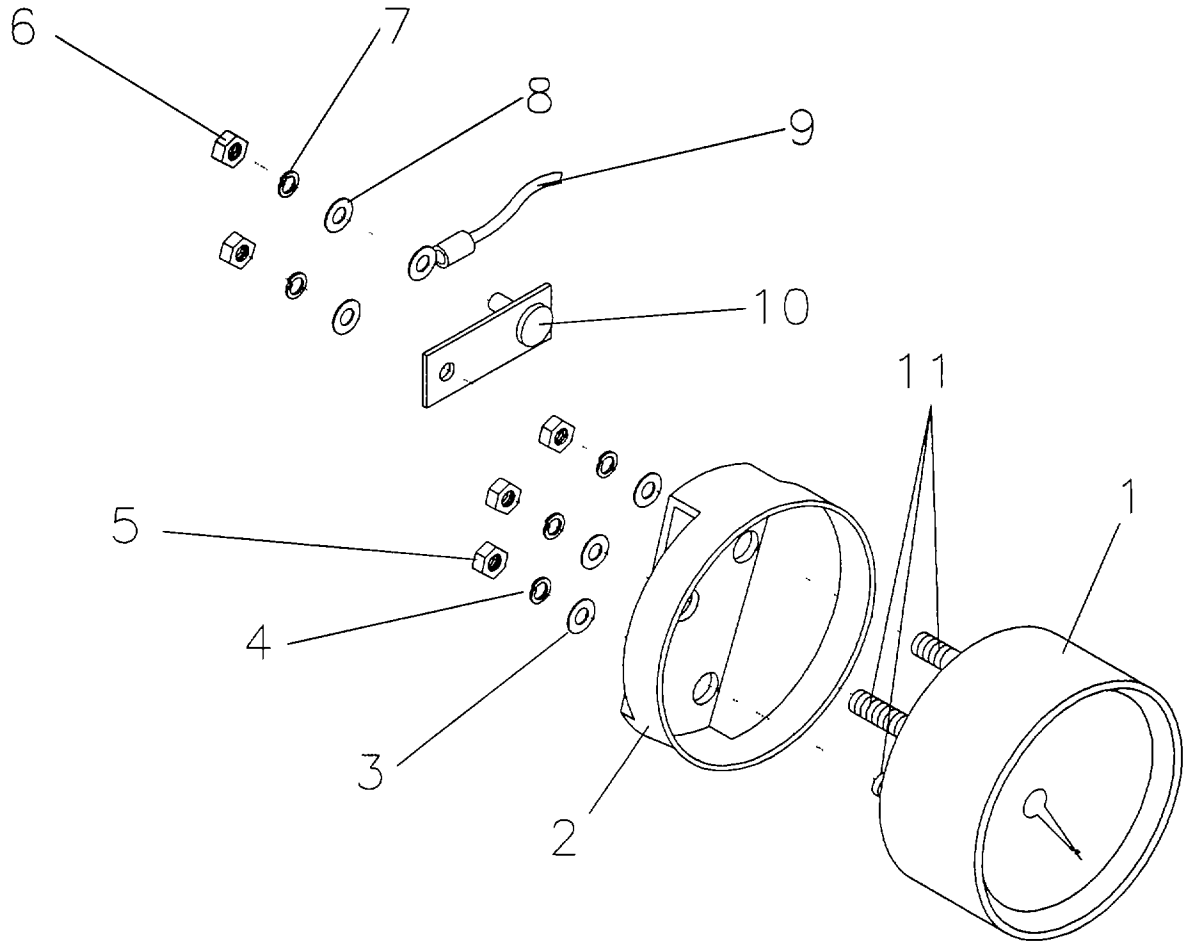

Figure 5-1. Pane Mounted Instruments.
a. Removal. Refer to figure 5-1.
1) Remove the nuts (6), lockwashers (7), flatwashers (8), tag and remove wires (9) and resistor assembly (10), where applicable, connected to the instrument (1) to be removed. Discard lockwashers.
2) Remove the nuts (5), lockwashers (4), flatwasher (3), and retainer (2). Discard lockwashers.
3) Remove the instrument (1) from the front of the panel.
b. Installation. Refer to figure 5-1.